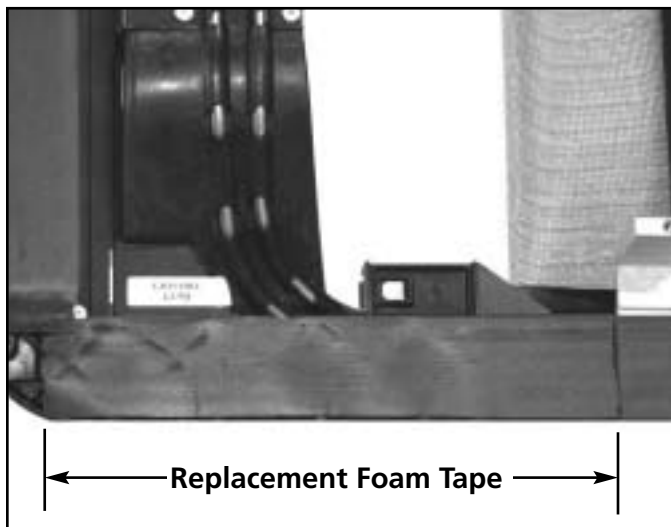

Figure S-9
10. Measure and cut foam tape to cover the track and rail and apply the foam tape to the track and rail. See figure S-9.